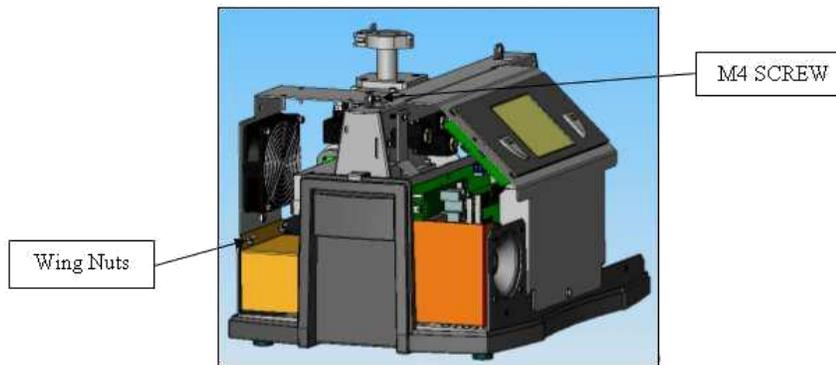

Figure 3: Plastic Shield
- Remove the two wing nuts holding the plastic shield around the power input area inside the leak detector and remove the shield (Figure 3: Plastic Shield).
- Remove the fan assembly by loosening the M4 socket head cap screw (Figure 3: Plastic Shield).